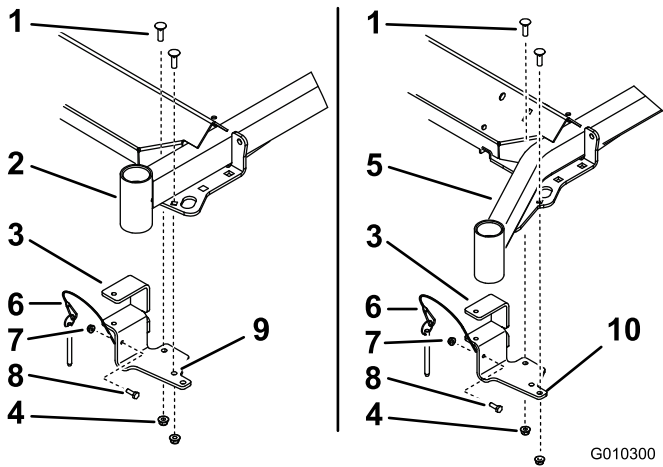

Figure 4
1. Place the Z Stand cradle bracket onto the left front frame as shown in Figure 4.
2. Install the Z Stand cradle bracket to the frame with the cradle bracket, 2 carriage bolts (3/8 x 1-1/4 inches) and 2 flange nuts (3/8 inch)(Figure 4).
Ensure the correct holes are used as shown in Figure 4.
3. Install the lanyard to bracket pin. Use large loop on lanyard (Figure 4).
4. Install the lanyard with a bolt (1/4 x 3/4 inches) and locknut (1/4 inch) (Figure 4).